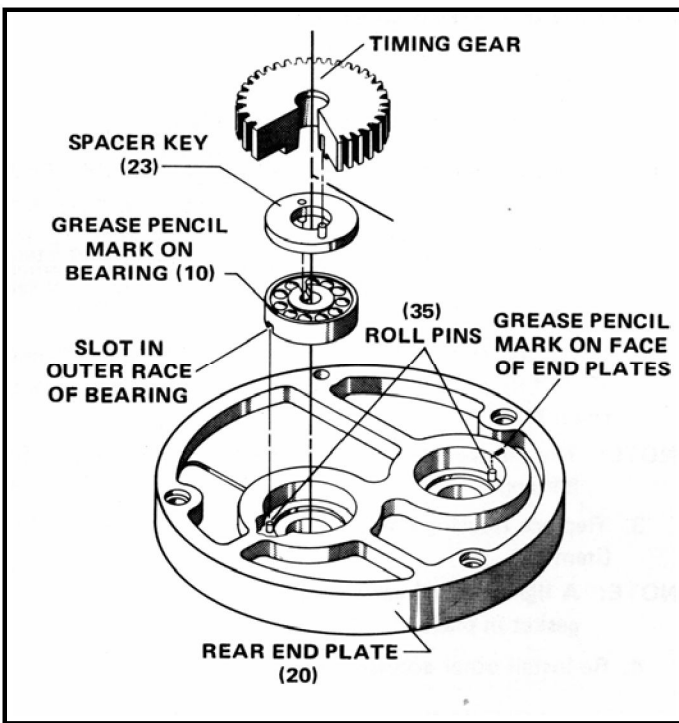

Figure 4-3 Typical End Plate, Bearing, Spacer Key and Timing Gear Alignment Detail
3. Install ball bearings (item 10) within the bearing bore of the front end plate (item 7). Use a sleeve or deep socket with an outside diameter slightly less than that of the bearing outer race to press or tap the bearings into bearing bore until securely seated. Use care to drive bearing straight down and make certain that no foreign materials enter the bearing.
NOTE: Slot in outer race of ball bearings must align with roll pin (item 35) in bottom of bearing bore. (Reference Figure 4-3).
4. Rotate measuring unit body and replace rotors (item 30 and 31) in proper slots so that the threaded, tapered rotor shafts protrude from the open end of the measuring unit body.
5. Attach the rear end cover (item 20) to the body (item 1) using care to align the two locating dowel screws (item 9) with their corresponding holes.
6. Install ball bearings (item 10) within the bearing bore of the rear end cover (item 20).
NOTE: Slot in outer race of ball bearings (item 10) must align with roll pin (item 35) in bottom of bearing bore. (Reference Figure 4-3).
7. Replace spacer key (item 23), timing gears (item 24 and 29), lockwasher (item 27) and locknut (item 28). The large timing gear fits on the 4T rotor and the small timing gear on the 3T rotor.